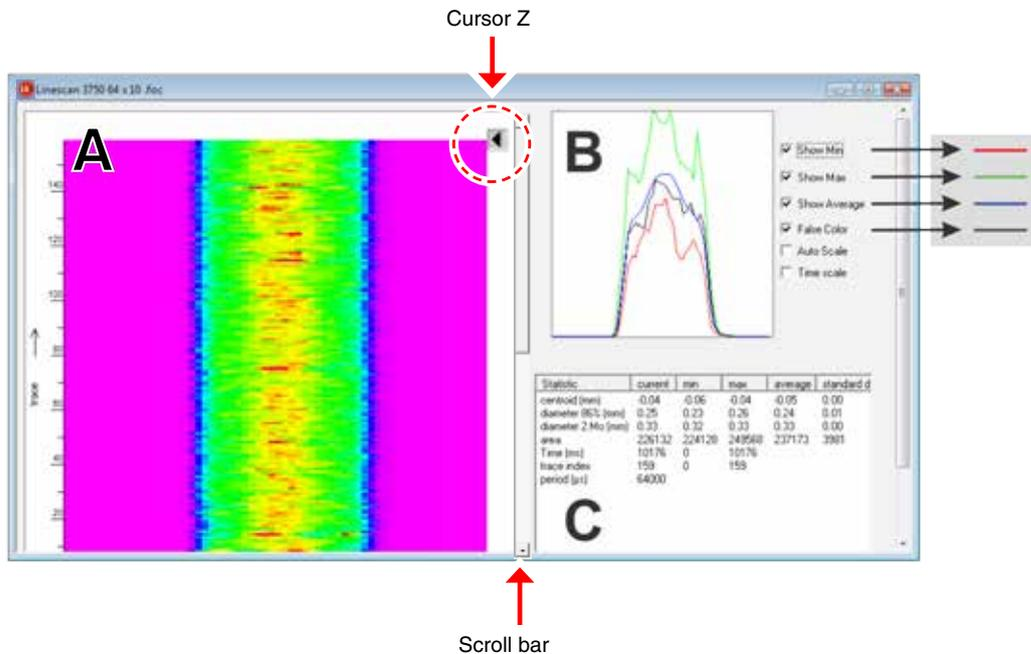

Fig. 23.3: Dialogue window **Presentation>>LineScan**
1. Please carry out a standard single measurement (please see Fig. 23.3)